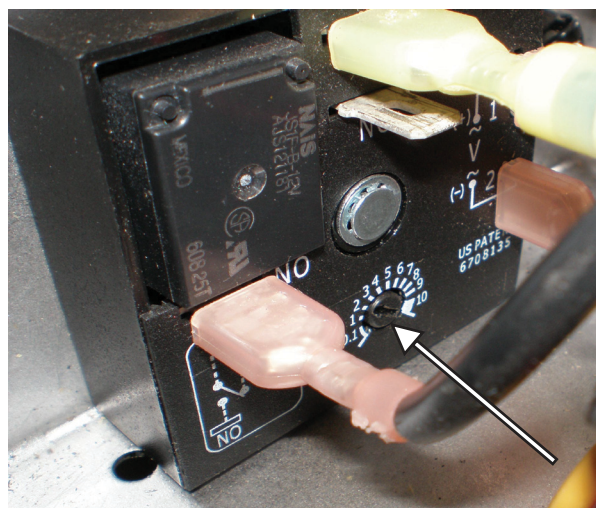

Fig. 11B Time delay relay positioning
3. If installing the AQ4 with hydro ignition models 1600H or 425HN, move the adjuster on the time delay to the (2) second position. (Fig. 11B)